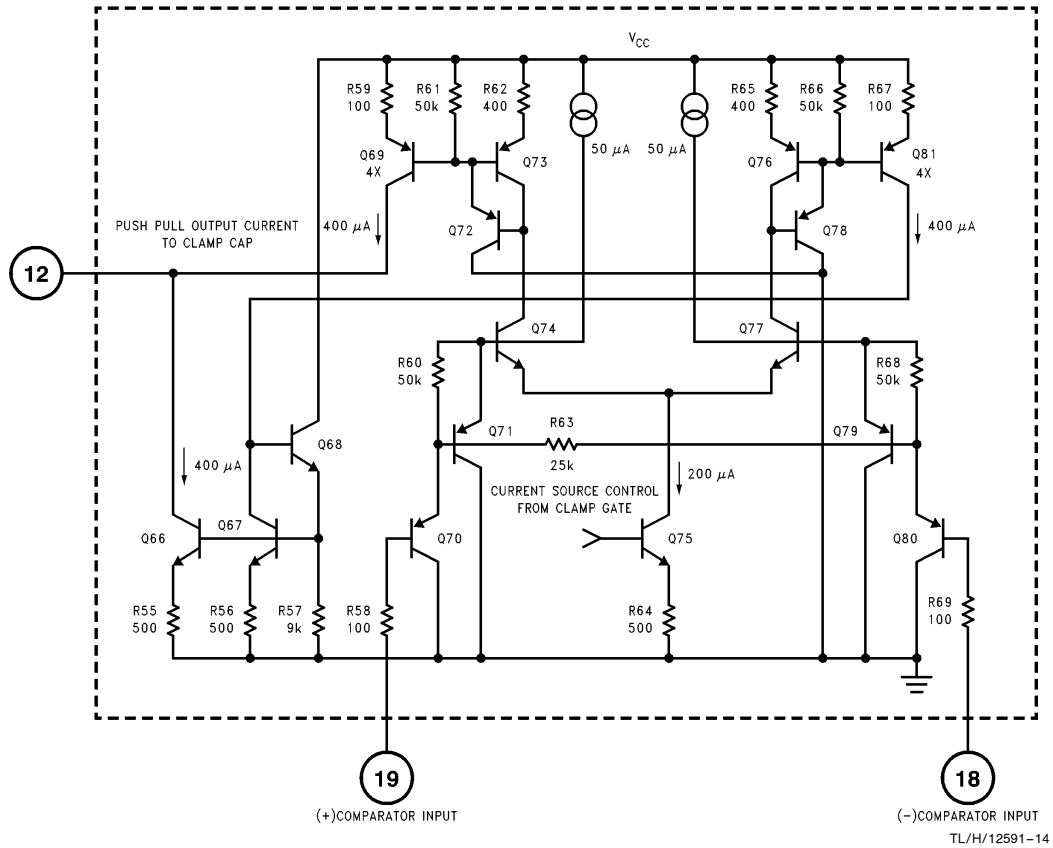

FIGURE 8. Simplified Schematic of the LM2202 Clamp Comparator Circuit
*Figures 7* and *8* show simplified schematics of the clamp gate and clamp comparator circuits. The clamp gate circuit (*Figure 7*) consists of a PNP input buffer transistor (Q82), a PNP emitter coupled pair (Q85 and Q86) referenced on one side to 2.1V and an output switch transistor Q89. When the clamp gate input at pin 14 is high ( $> 1.5V$ ) the Q89 switch is on and shunts the 200  $\mu A$  current from current source Q90 to ground. When pin 14 is low ( $< 1.3V$ ) the Q89 switch is off and the 200  $\mu A$  current is mirrored by the current mirror comprised of Q91 and Q75 (see *Figure 8*). Consequently the clamp comparator comprised of the differential pair Q74 and Q77 is enabled. The input of the clamp comparator is similar to the clamp gate except that an NPN emitter coupled pair is used to control the current that will charge or discharge the clamp capacitor externally connected from pin 12 to ground. PNP transistors are used at the inputs because they offer a number of advantages over NPNs. PNP's will operate with base voltages at or near ground and will usually have a greater emitter base breakdown voltage (BVebo). Because the differential input voltage to the clamp comparator during the video scan period could be greater than the BVebo of NPN transistors, a resistor (R63) with a value one half that of R60 or R68 is connected between the bases of Q71 and Q79. The clamp comparator's common mode range is from ground to approximately 9V and the maximum differential input voltage is  $V_{CC}$ .